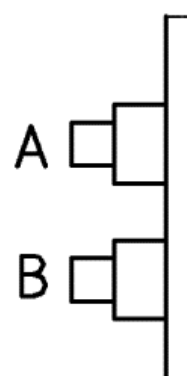

Fig. 4
11. Push the PCB board switch A for one second. (Fig. 4)
14. Push the PC board switch B for one second. (Fig. 4)